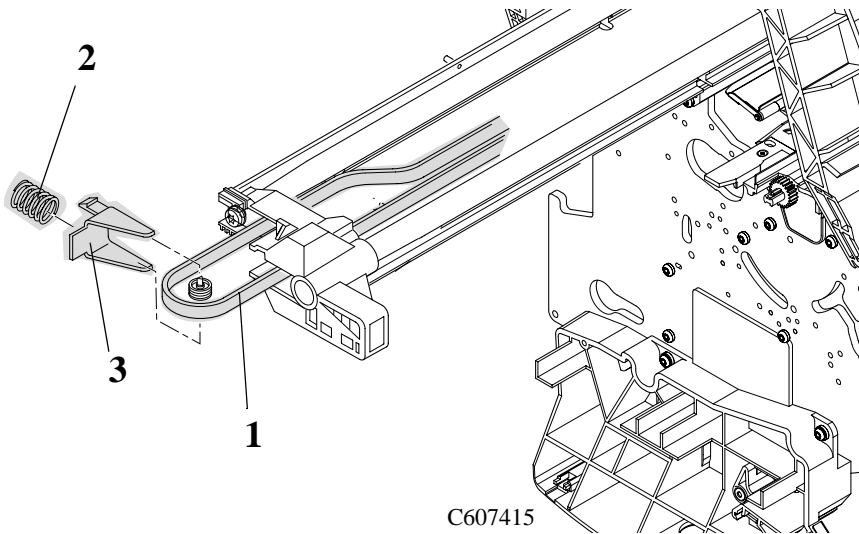

Figure 51: Carriage Assembly and Belt
9. To release the tension on the belt (item 1) from the left hand side of the Printer, squeeze the spring (item 2) using the tensioner wedge clip (item 3) until you hear it click into place (refer to Figure 51).